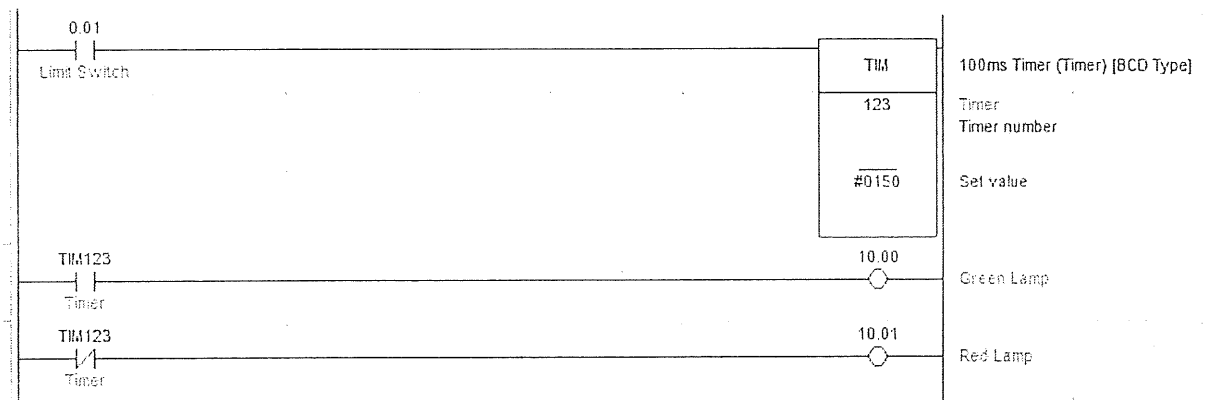

Figure 1
- a) Describe three (3) advantages of using timer instruction in PLC system. (6 marks)
- c) Refer to the ladder diagram program in Figure 1.